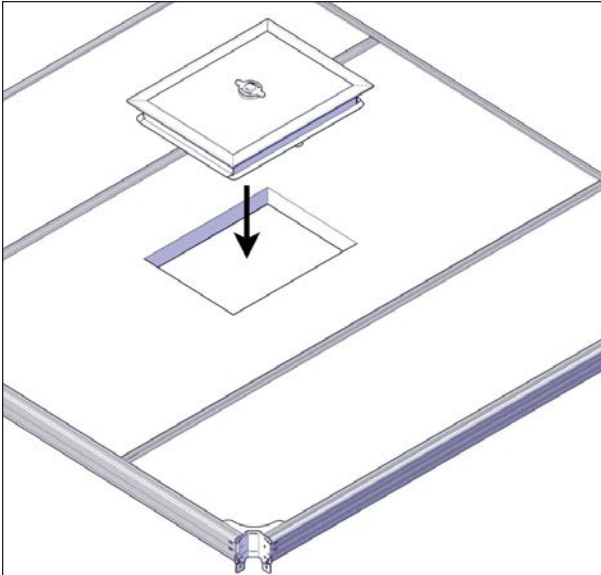

FIGURE 46: ESCAPE HATCH INSTALLATION
14. Turn the escape hatch handle to retract the arms and install it into the escape hatch opening of the center panel see Figure 46.